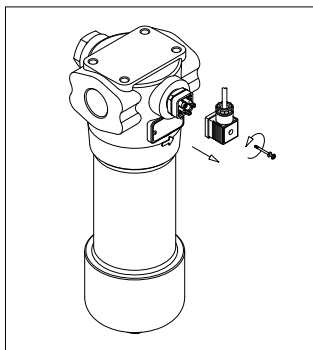
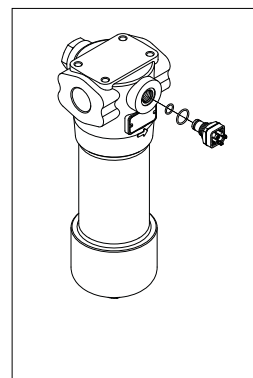

fig. 13
fig. 31
- (Fig. 13) Remove the connector of the differential indicator by unfastening the central screw (only for electrical indicators)
- (Fig. 31) Replace the O-rings of the indicator body. For the mounting/dismounting of the indicator, please refer to the paragraph "Clogging indicator replacement" above (Fig. 13÷16).